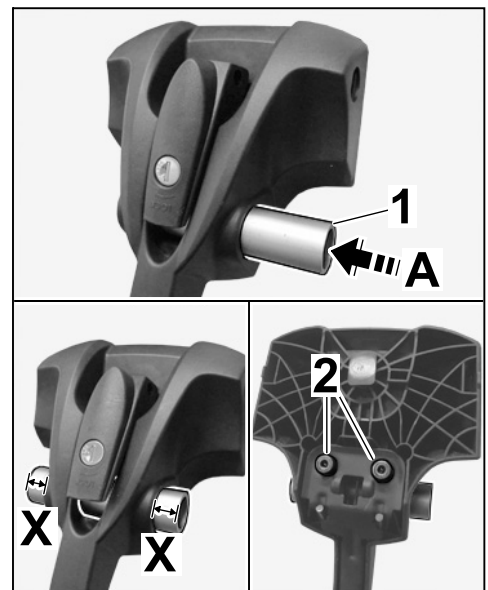

Figure 17
1.7.2 Guide full-floating axle into the front wheel fork mounting (⇒ *Figure 17-A-*).
Align projection (⇒ *Figure 17-X-*) evenly at the left and right of the front wheel fork mounting.